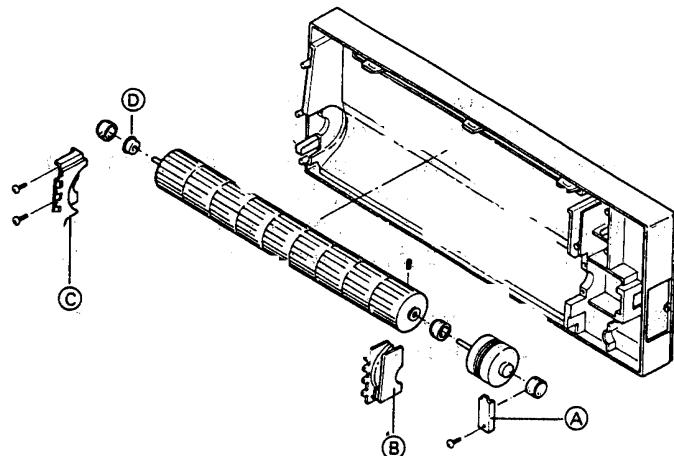

Fig. 7
- 1) As shown in Fig. 7 loosen the screws of the plastic mounting plates **A**, **B** and **C** which secure the fan, then remove the fan and fan motor.